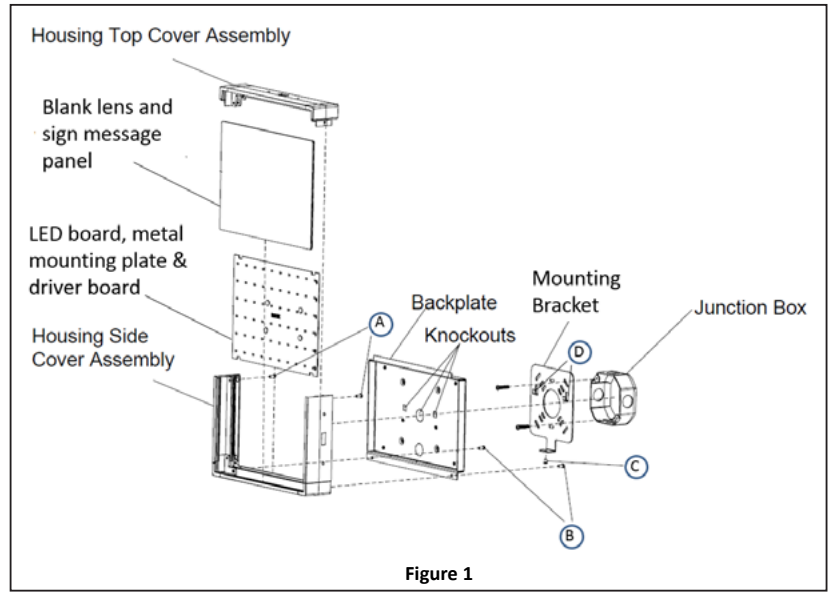

Figure 1
BACK MOUNT INSTALLATION (Fig 1.)
1. Separate the wall-mount backplate from sign housing by removing the (2) retaining screws (B) as shown in Figure 1.
2. Separate the housing top cover assembly from sign housing by removing the (2) retaining screws (A) as shown in Figure 1.
4. Re-attach the housing top cover assembly to the sign housing using the (2) screws previously removed in step 2.
5. Re-attach the appropriate backplate to the sign housing using the (2) screws previously removed in step 1.